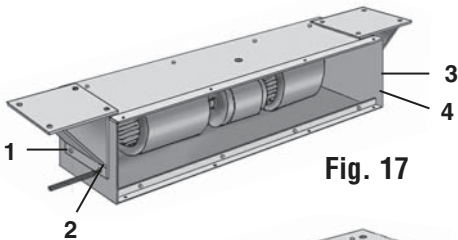

Fig. 17
2. One side at a time, place the Extension Bracket on the top side of the unit and align the top mounting holes with the threaded insert holes on the top of the unit. As a precaution, use the top mounting bolts to hold the bracket in place. Mark the two (2) bottom holes of the bracket on the side panel of the unit. (**See Fig. 17**)